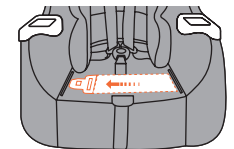

Fig. 26a
- Route Lap Belt through the rear facing belt paths and under the seat fabric (Fig. 26a).